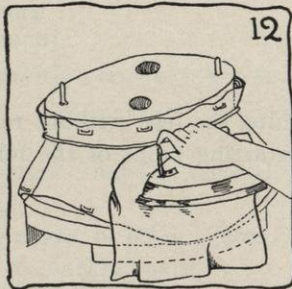

FIG. 12.
- i. Press Brim. Follow *either* Sections (1) or Sections (2), (3) and (4).
- (1) Press brim with a hot iron, placing a heavy unbleached muslin pressing cloth, slightly dampened, over felt, and using a continuous round-and-round motion of the iron (see Figure 12). Be careful not to press over the creases in the cloth. Always lay the cloth smooth over the part that you plan to press.
- (2) Rub a little dry soap on the luring stove, or hot plate, or upturned iron, or let a few drops of coconut oil fall on one of them (see Figure 12 of Job 2, page 10). Let it smoke until there is no grease left.